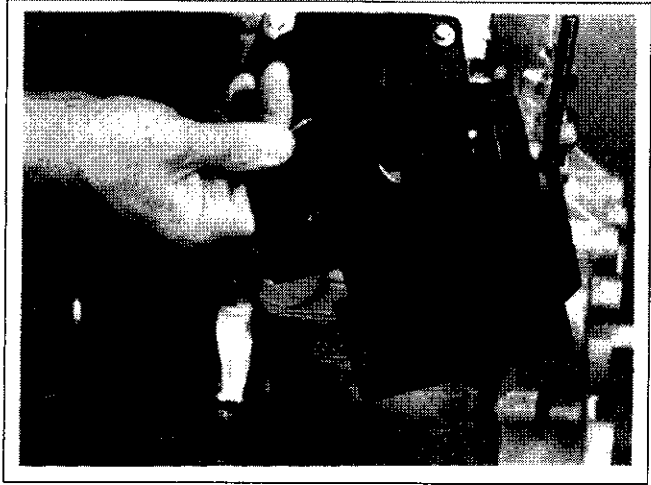

**Figure 9-26. Detach the Smart Spark™ Module (CH22 and CH25 Only).**
3. The rectifier-regulator does not have to be detached from the blower housing, however, if the engine is a CH22 or CH25 the Smart Spark™ module should be removed from the housing. See Figure 9-26.